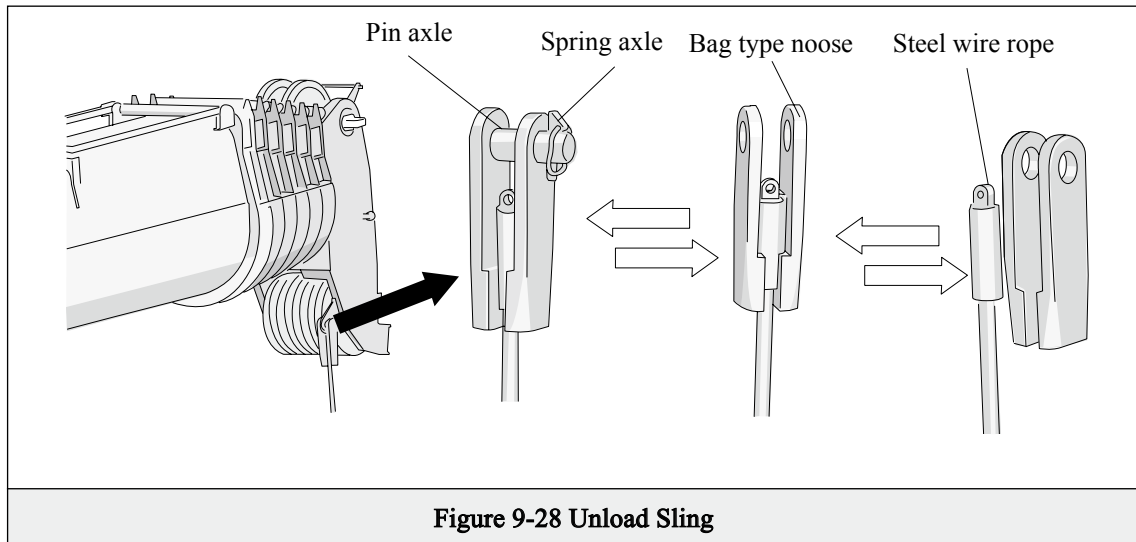

Figure 9-28 Unload Sling
d. Dismount sling (Figure 9-28) .